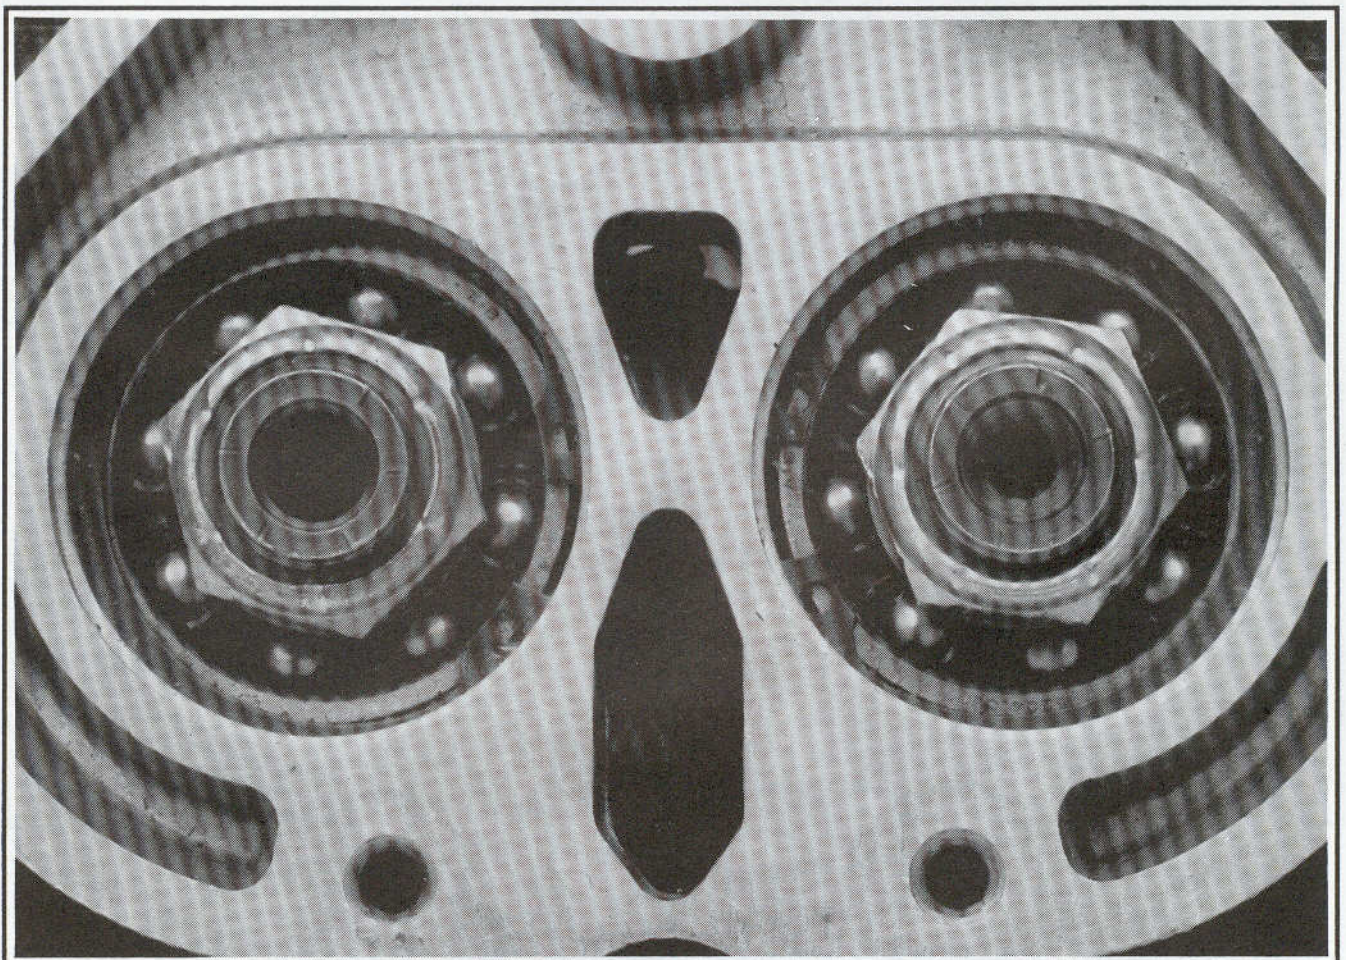

Figure 7-18. Side Door Bearings
4. See Figure 7-18. Inspect the bearings in the side door. If bearings are pitted or grooved or feel rough when turned, replace the bearings.
1. See Figure 7-18. Remove the retaining rings and press the bearings out of the side door.